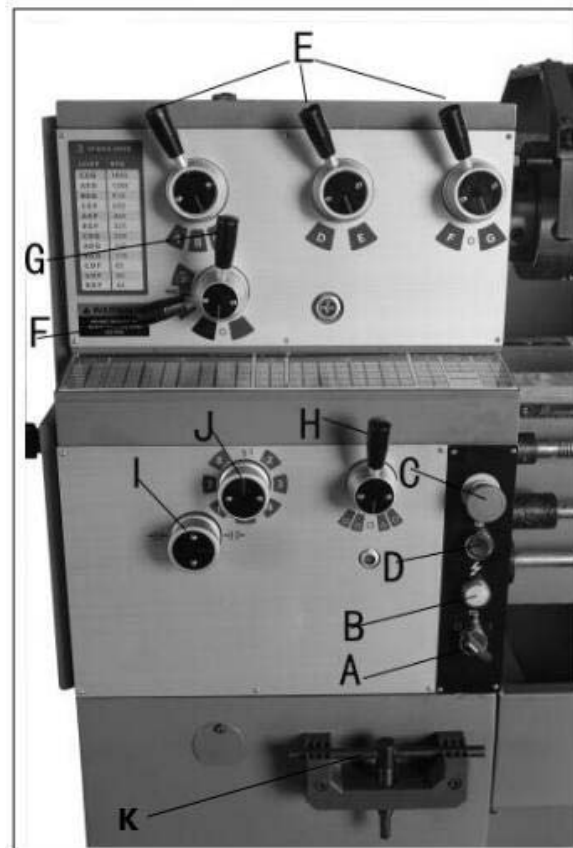

Figure 14
- B. Power Indicator Light** (B, Fig. 14) – illuminated whenever lathe has power.
Emergency Stop Switch (C, Fig. 14) – press to stop all machine functions.
- C. Jog Switch** (D, Fig. 14) – Press and release to advance spindle momentarily.
2. **Headstock Gear Change Levers (E, Fig. 14)** – located on front of headstock. Move levers according to speed chart for desired setting.
3. **Leadscrew/Feed Rod Directional Lever (F, Fig. 14)** – located on front of headstock. Moving the lever up causes carriage travel toward the tailstock; moving the lever down causes carriage travel toward the headstock (when chuck is spinning in forward or counterclockwise direction). Do not move lever while machine is running.
4. **Feed/Lead Selector Lever (G, Fig. 14)** – located on the front of the headstock. Used whenever setting up for threading or feeding.